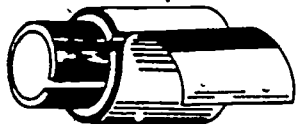

Figure 49. Antisweat Insulation
**ANTISWEAT.** Antisweat insulation (see figure 49) is designed for use on cold water pipes. It keeps the water colder in the pipes than most types of insulation and, if properly installed, prevents condensation or sweating of the pipes. The outstanding feature of antisweat insulation is its construction. It is composed of an inner layer of asphalt-saturated asbestos paper, a  $1/2$ -inch layer of wool felt, two layers of asphalt-saturated asbestos felt, another  $1/2$ -inch layer of pure wool felt, and an outer layer of deadening felts combined with asphalt-saturated felts. The outer layer has a flap about 3-inches long extending beyond the joint to help make a perfect seal. A canvas jacket is placed around each three-foot length to protect the outer felt covering.